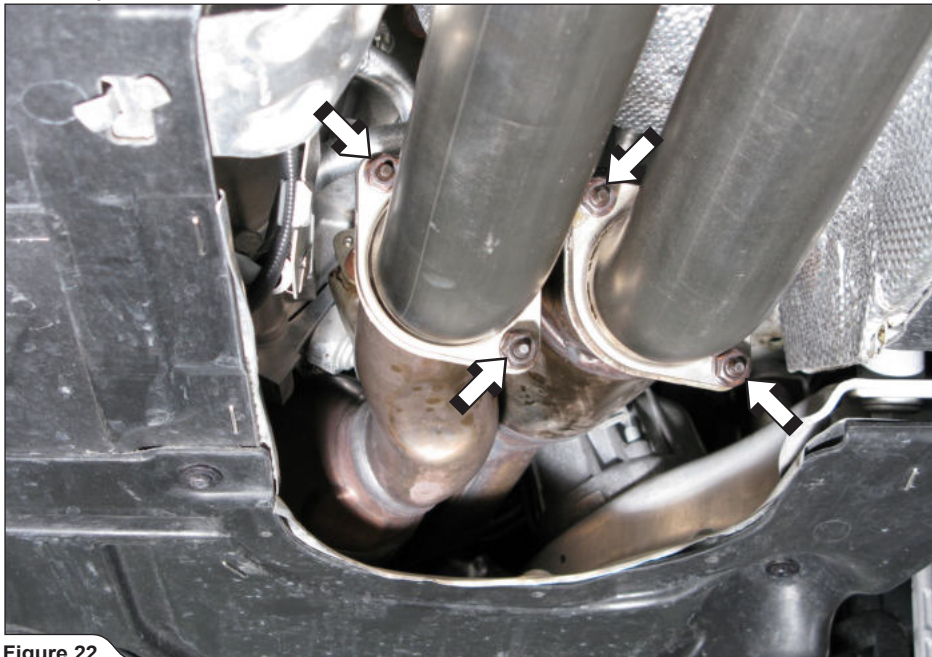

Figure 22
6. **For Evolution:** assemble the Akrapovič Evolution Link Pipes onto the Down Pipes, using original nuts (**Figure 22**).